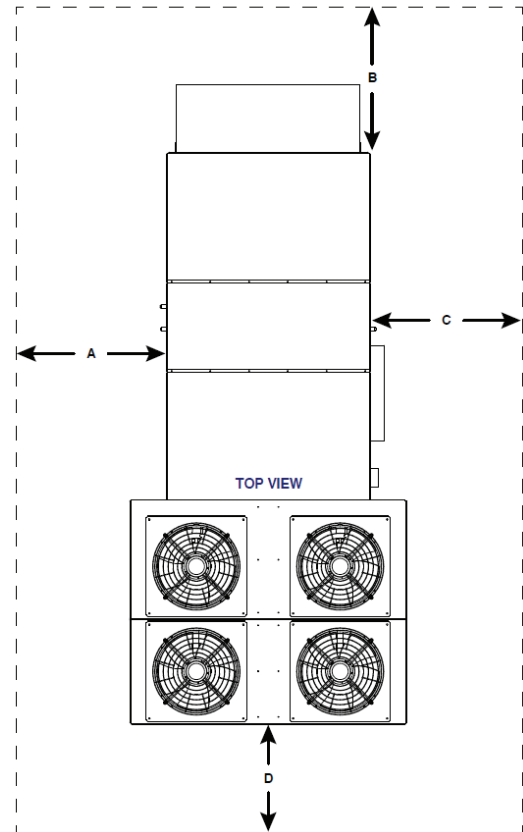

Fig. 2 — Required Clearances
- Do not locate adjacent unit condenser sections closer than 6 ft to one another to reduce the possibility of condenser air circulation. Follow the minimum required clearances listed in Service, Ventilation, and Required Clearance sections or in Fig. 2 and Table 2 (whichever is greater).
Clearances are the required distances that the unit must be away from objects and other units to allow service access and proper operation of the unit. See Fig. 2 for example.